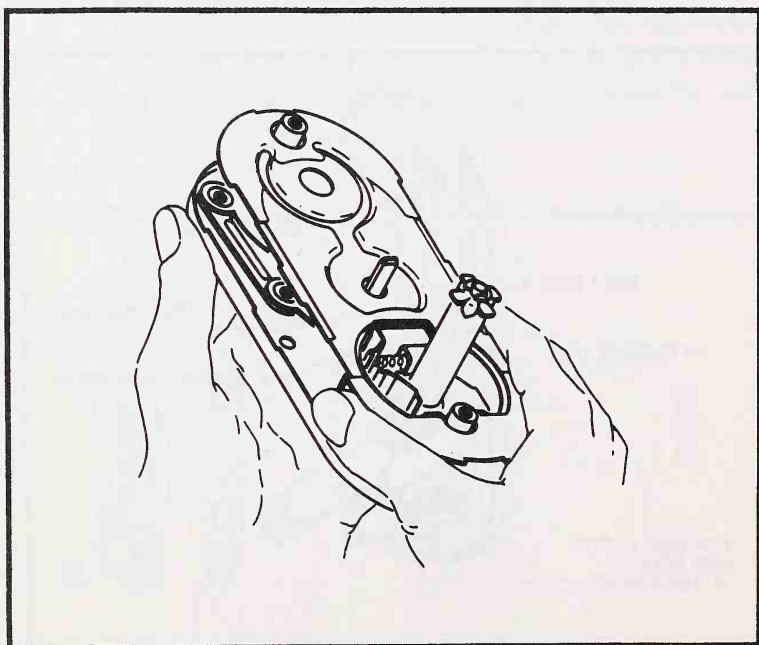

Fig. 18-50.
2. Lift off the mounting-plate cover (Fig. 18-50).